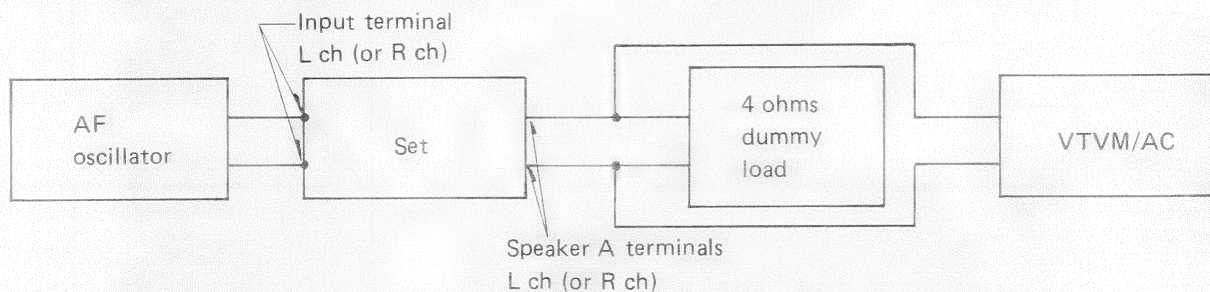

Figure 15
- (1) Set the meter range selector of peak-power-meter to xl (  ) position.
- (2) Set the speaker selector knob to SPEAKER A position.
- (3) Connect test equipment as shown in Figure 15.
- (4) Control the output of AF oscillator as the VTVM indicates 2V AC.
- (5) Adjust the indication of peak-power-meter to be 1W with SVR601 (L ch) and SVR602 (R ch).